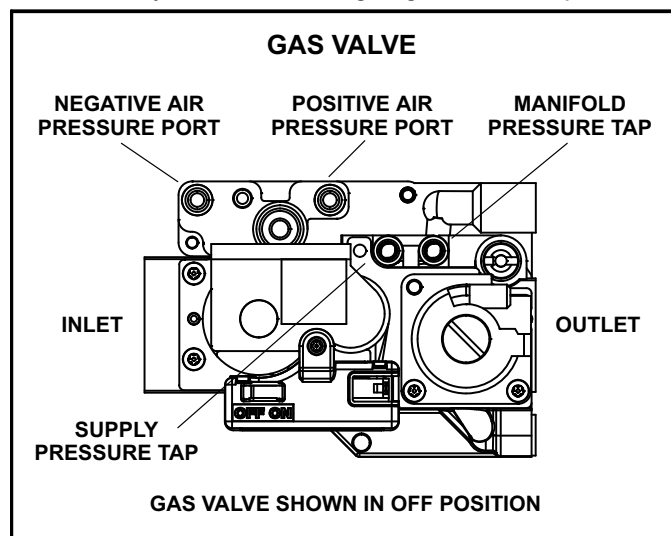

FIGURE 35
#### Gas Valve Operation (Figure 35)
- 6 - Move the gas valve switch to the **OFF** position. See figure 35.
- 8 - Move gas valve switch to the **ON** position. See figure 35. Do not force.
When testing supply gas pressure, connect test gauge to supply pressure tap on the gas valve. See figure 35. Check gas line pressure with unit firing at maximum rate. Low pressure may result in erratic operation or underfire. High pressure can result in permanent damage to gas valve or overfire. See table 38 for operating pressure at unit gas connection (line).